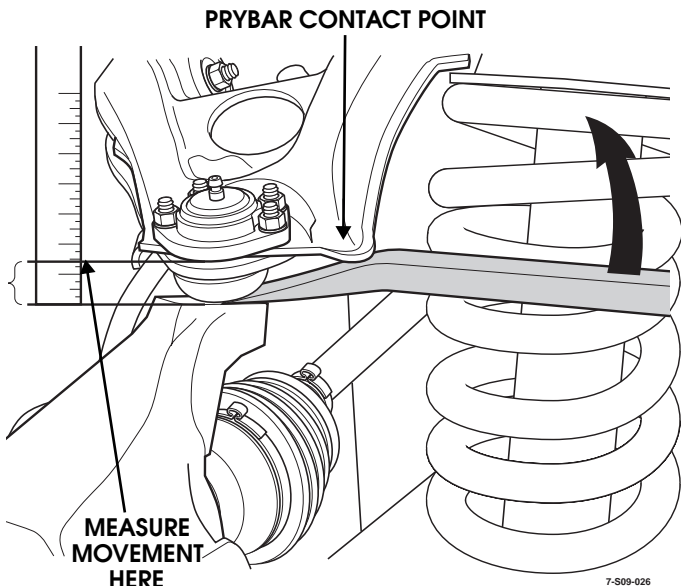

Figure 6-44: Ball Joint Wear Check
4. Check upper ball joints: With the vehicle on the ground (being careful not to damage the boot), place the tip of a prybar between the steering knuckle and the ball joint boot (Figure 6-44). With the shank of the prybar contacting the upper control arm as shown, pry upward and note the movement of the ball joint against a ruler. Be careful to measure only the ball joint movement and not the flex of the control arm resulting from prying against it. Any upper ball joint with more than 1/16" (1.6 mm) movement should be replaced.